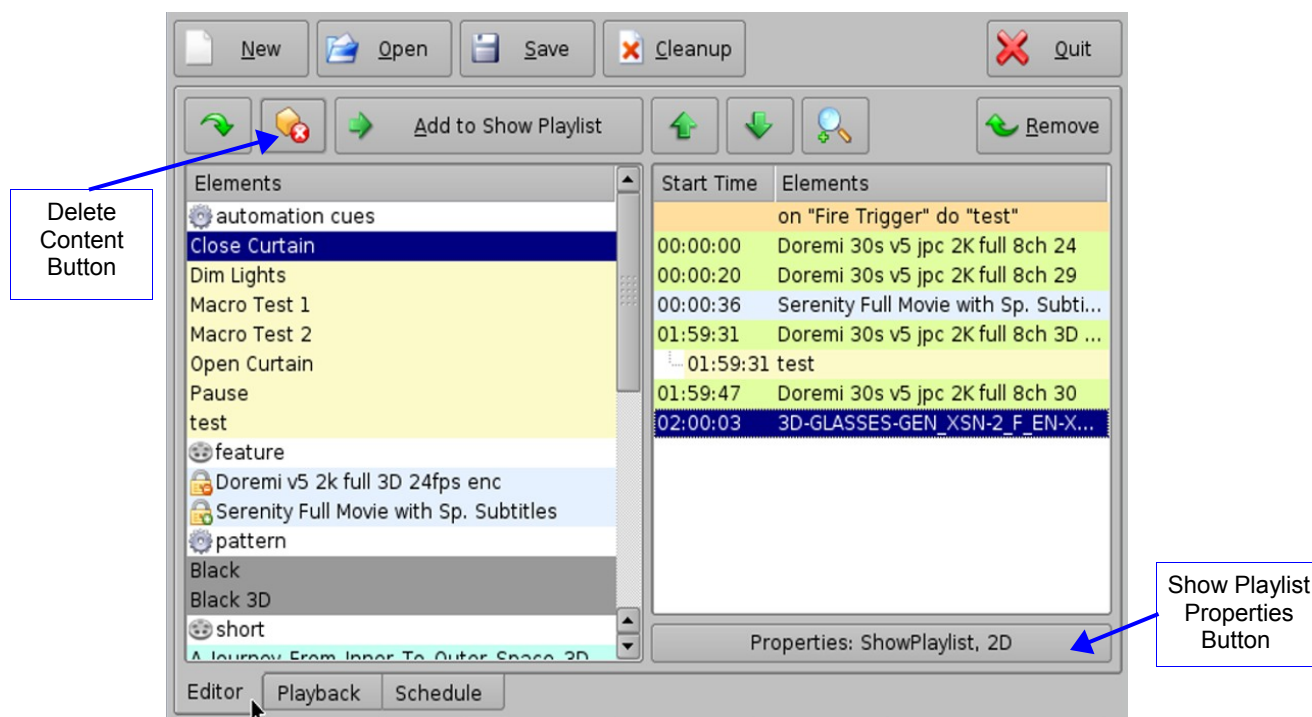

Figure 174: CineLister GUI Editor Tab
- Click the Show Playlist Properties button (Figure 174).